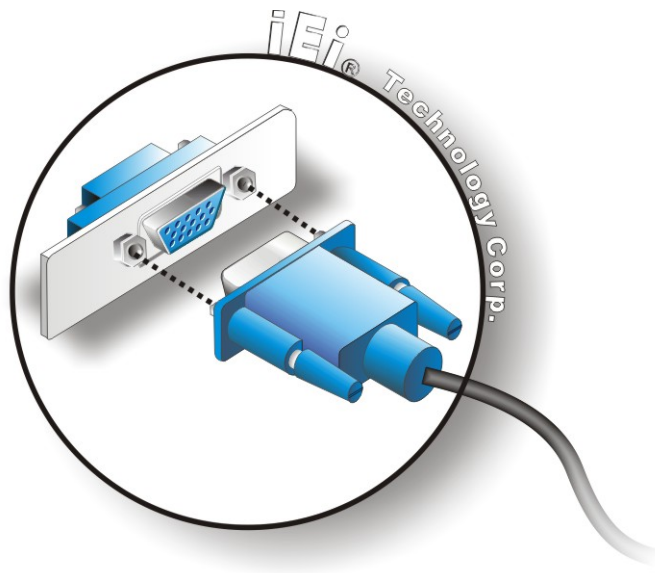

Figure 4-18: VGA Connector
- Step 3: Insert the VGA connector.** Once the connectors are properly aligned with the insert the male connector from the VGA screen into the female connector on the KINO-DH610. See **Figure 4-18**.